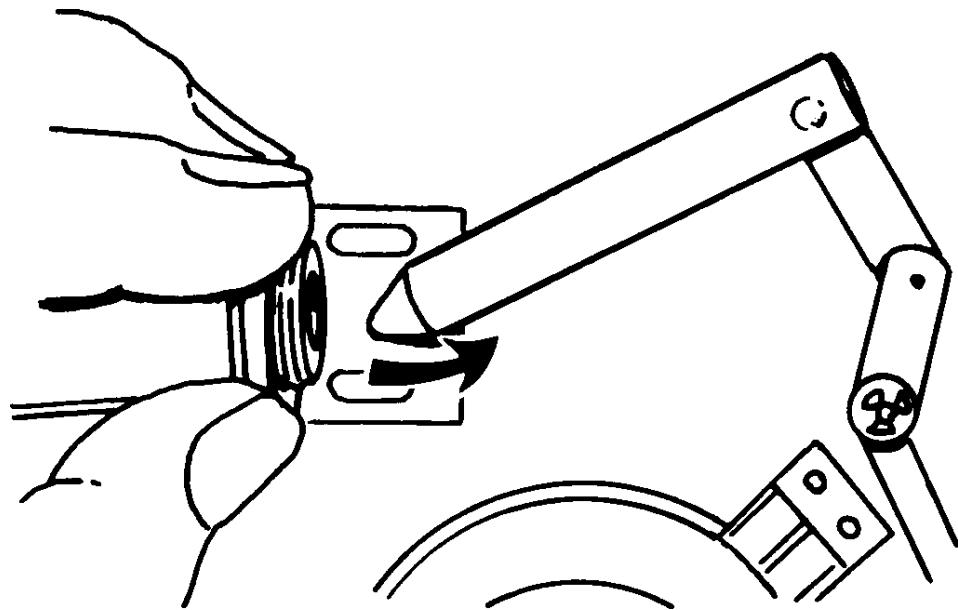

Figure 4-14 Sliding Solenoid Body Off Cover
- 6.3 Slide Solenoid body off plunger ("d").(Fig. 4-14)